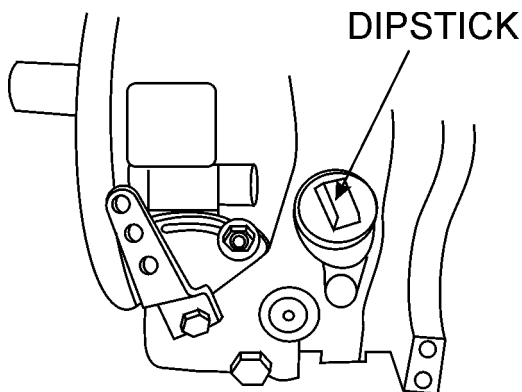

Figure 5. Oil Filler Port/Dipstick
1. Remove the engine oil dipstick from its holder (Figure 5).